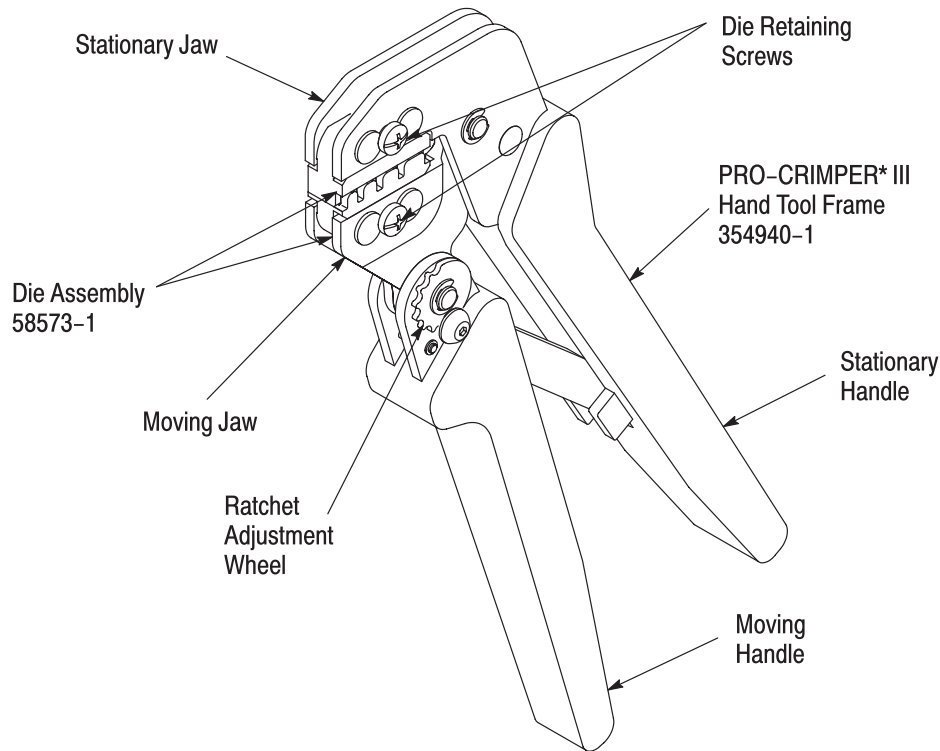

Figure 1
This instruction sheet covers the use of PRO-CRIMPER III Hand Tool 58573-1 with Crimping Die Assembly 58573-2, which is used to apply the standard and moisture resistant spare wire caps listed in Figure 2. The die assembly is designed to be used in PRO-CRIMPER III Hand Tool Frame 354940-1 (shown in Figure 1). For instructions concerning the operation of the hand tool, refer to Instruction Sheet 408-9930, which is supplied with the tool.
2. DESCRIPTION (Figure 1)
- Changed lockscrew in Figures 1, 2, and 6